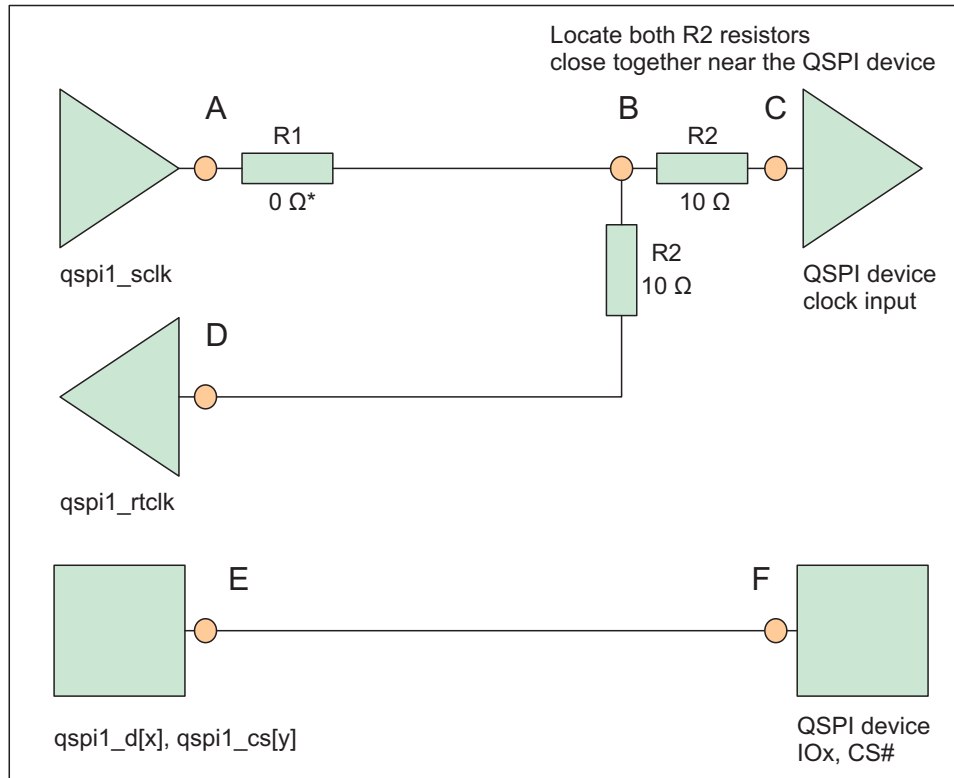

图 8-29. QSPI Interface High Level Schematic
- 50Ω PCB routing is recommended along with series terminations, as shown in 图 8-29.